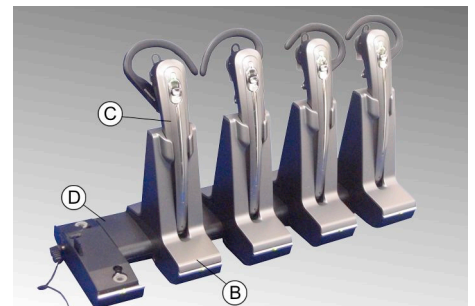
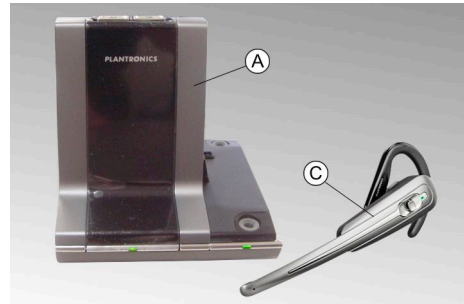

Fig. 15: Rack-charger
Fig. 17: Headset and wireless base
For matters of industrial hygiene each operator should have its own headset and charge cradle (B). The batteries of the headset (C) are charged by means of the rack charger (D). The rack charger allows up to 5 headsets to be charged at one time (see Fig. 15).
The base of the audio hardware is connected via USB to the remote stations computer (see Fig. 17). The audio hardware allows the remote operator to conference over an audio channel with the local operators. The batteries of the headset © are charged by means of the rack charger (see Fig. 15).